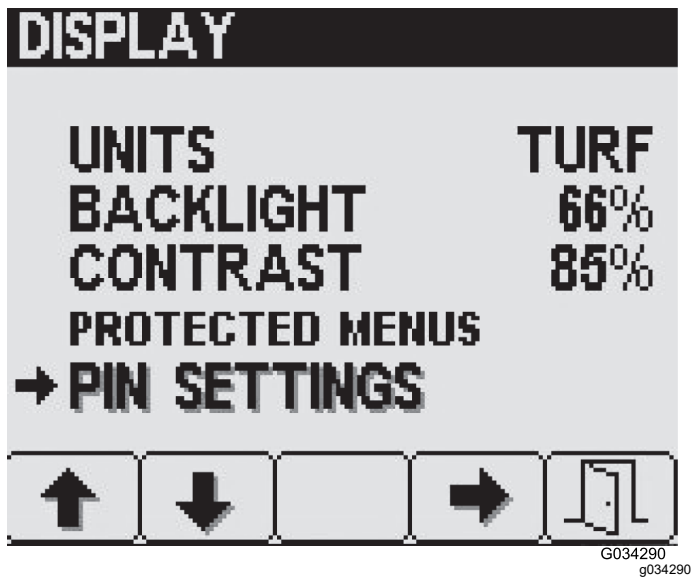

Figure 23
1. Press buttons 1 or 2 on the DISPLAY screen to navigate to the PIN SETTINGS option (Figure 23).
2. Press button 4 to select PIN SETTINGS sub-menu (Figure 23).